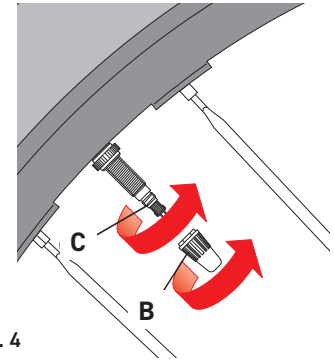

Fig. 4
- Hand fasten the valve ring (C - Fig. 4).
- Refit the valve cap (B - Fig. 4).